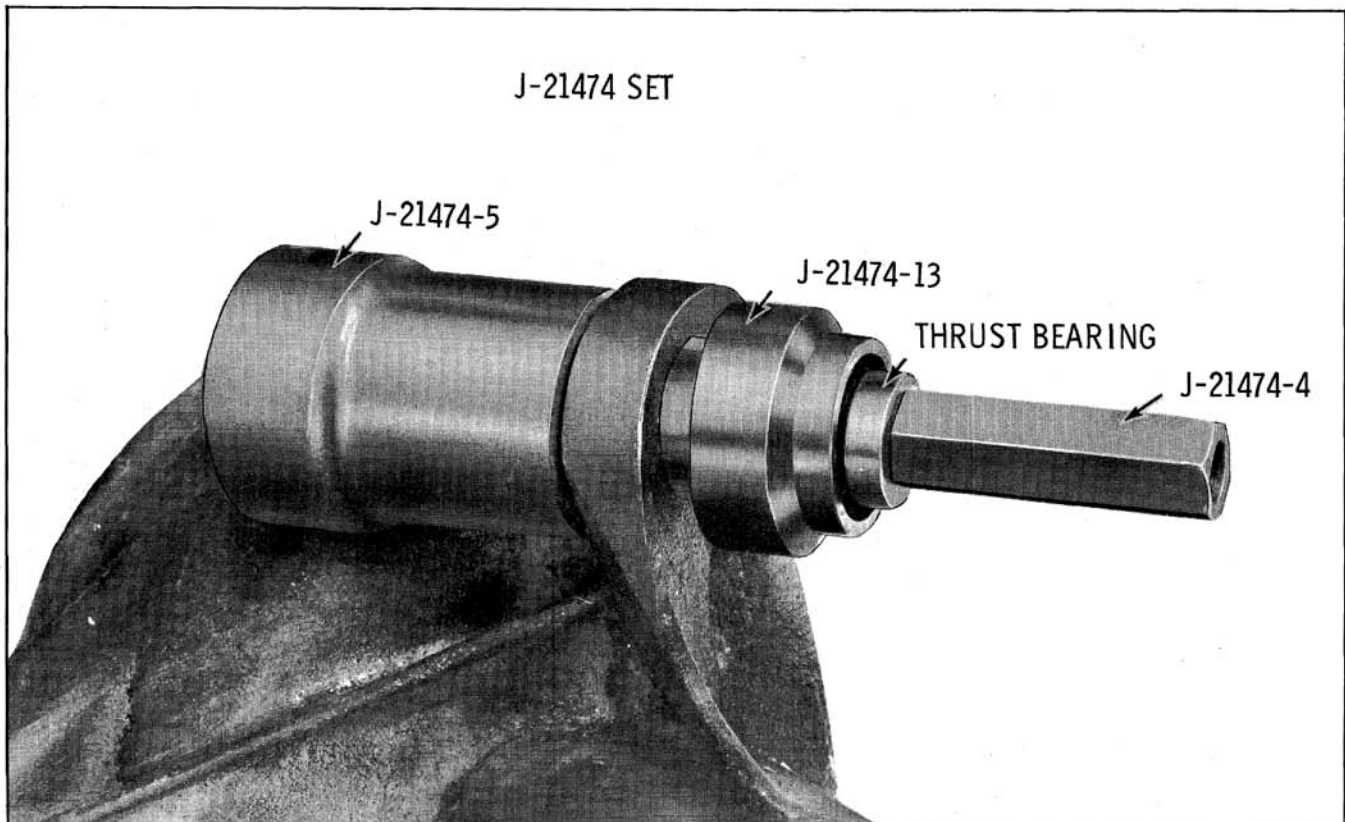

Fig. 9-39 Installing Upper Arm Rear Bushing
4. To install the bushing, reverse the tool as shown in Fig. 9-39 and pull bushing into position. Connect the upper suspension arms. Install bolt and torque nut to 85 ft. lbs.